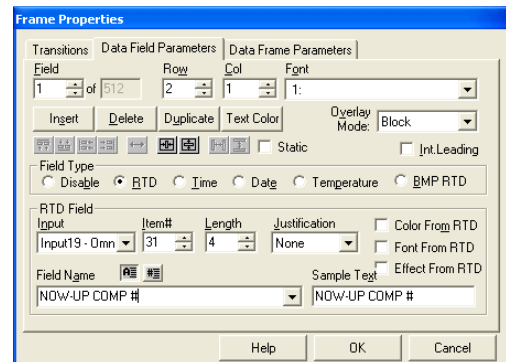

Figure 23: Frame Properties
3. In the *Frame Properties* window (*Figure 23*), select the **Data Field Parameters** tab. Make sure the *Field Type* is set to *RTD* then select a previously created *Input*, either for the OmniSport 2000 console or for the DakStats 3000 Rodeo software computer.